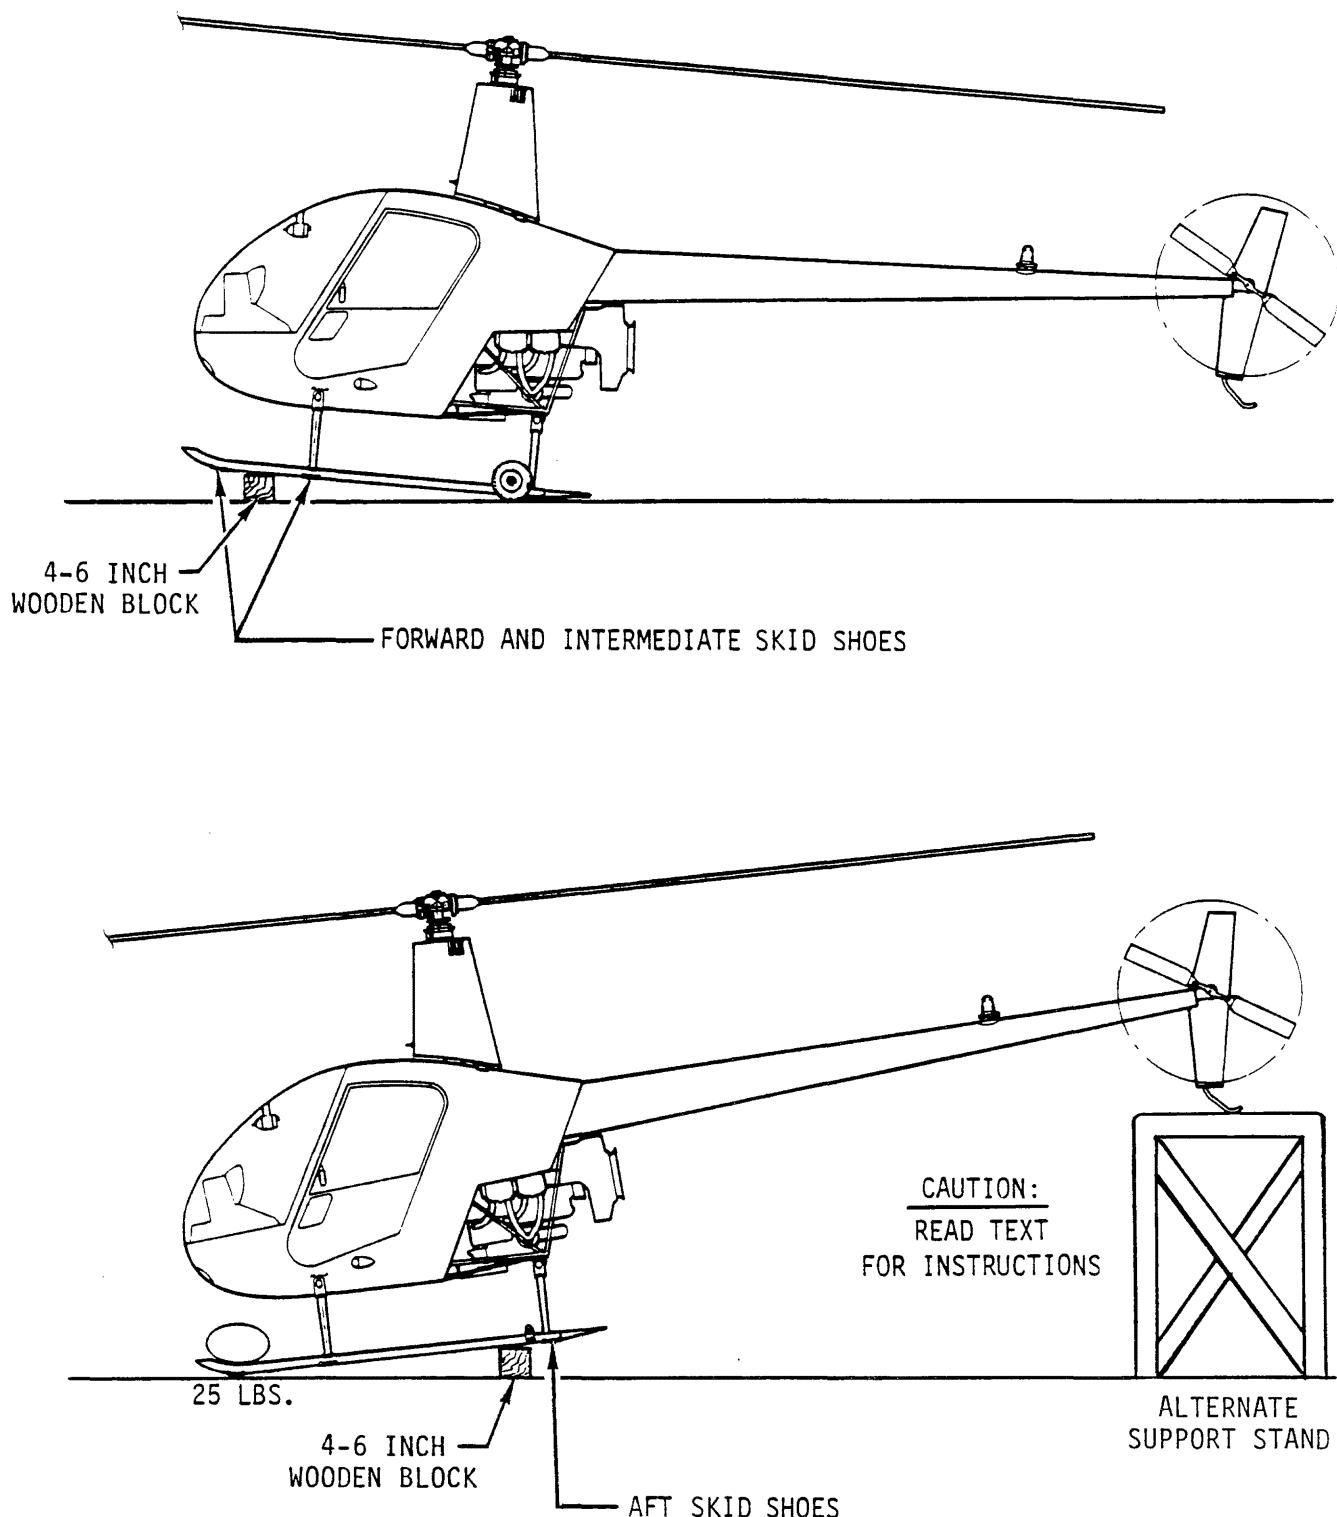

FIGURE 5-3 SKID SHOE REPLACEMENT
2. Push down on tail and place a wooden block approximately 4 inches ahead of intermediate skid shoes. (See Figure 5-3.)
- e) Tilt the helicopter until the tail skid touches the ground. Place a 4-6 inch wooden block as far aft as possible under each skid tube. (See Figure 5-3).